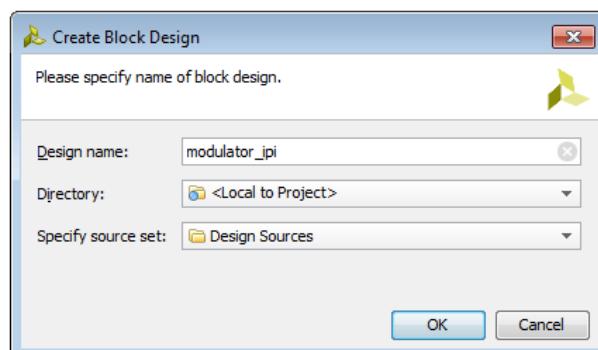

Figure 20. Create Block Design dialog box
- 3-1-2.** In the **Create Block Design** dialog box, specify **modulator_ipi** name of the block design in the **Design name** field and click **OK**, see Figure 20.